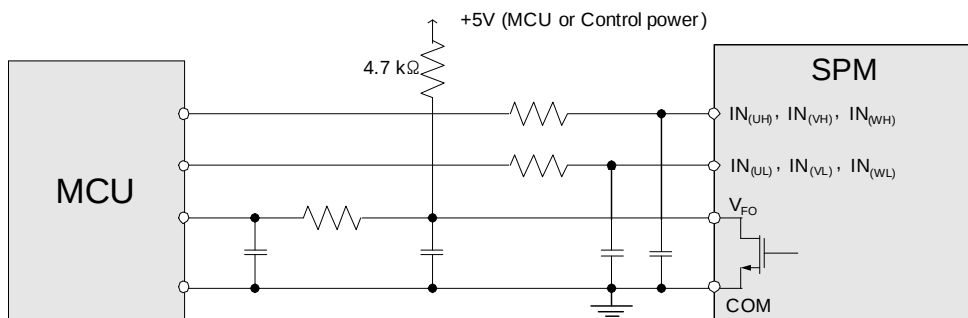

Figure 14. Recommended CPU I/O Interface Circuit
- V_{FO} output is open-drain type. This signal line should be pulled up to the positive side of the MCU or control power supply with a resistor that makes I_{FO} up to 2 mA. Please refer to Figure 14.